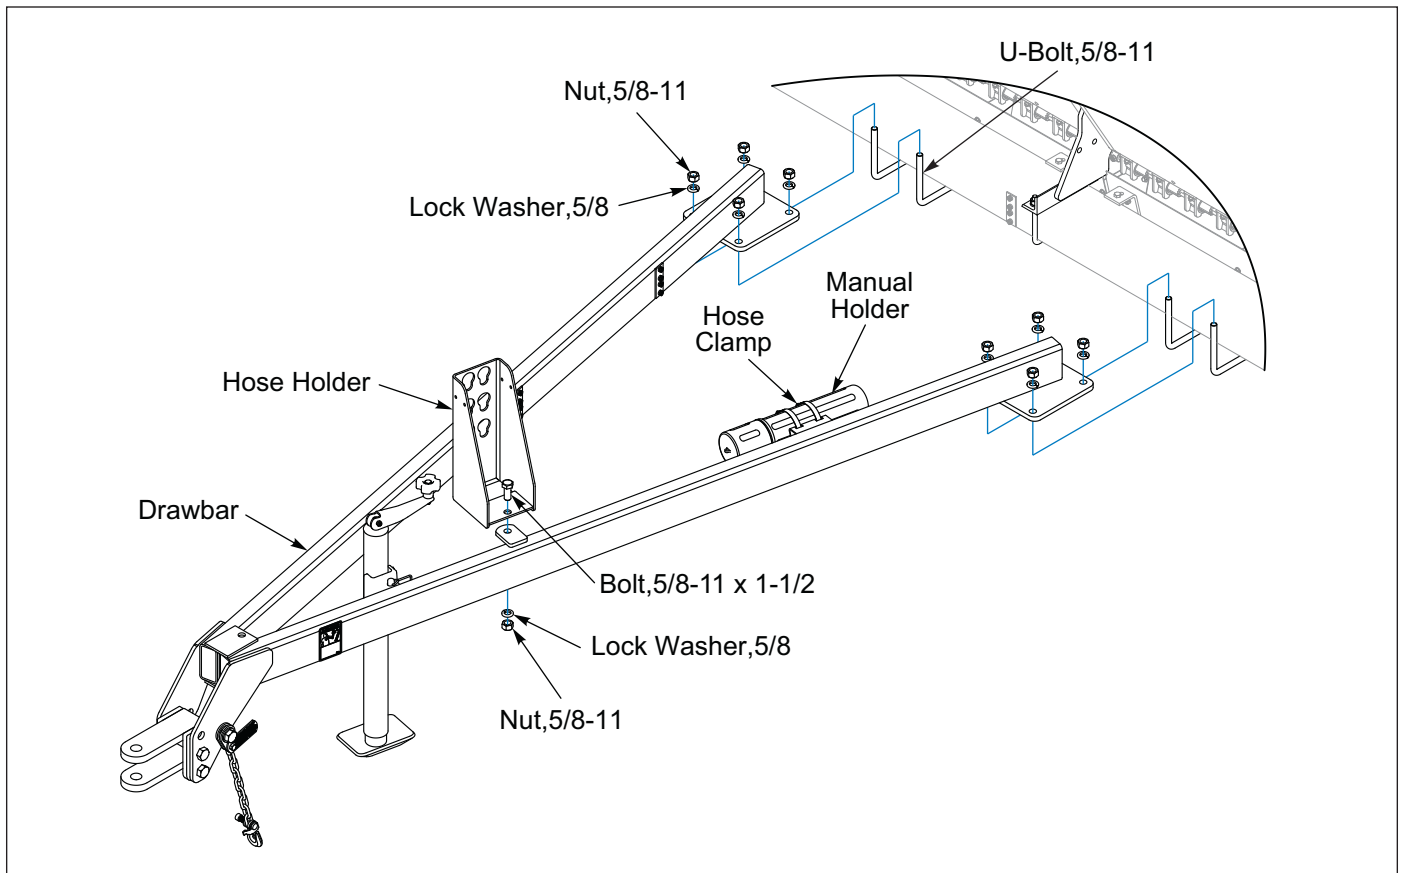

Figure 2-6: 8FT and 10FT Drawbar
2. Center Drawbar in relationship with the Seed Box Center Bracket. Attach Drawbar to Seeder Frame Tube with 5/8-11 U-Bolts, Lock Washers and Locknuts. **See Figure 2-6.**